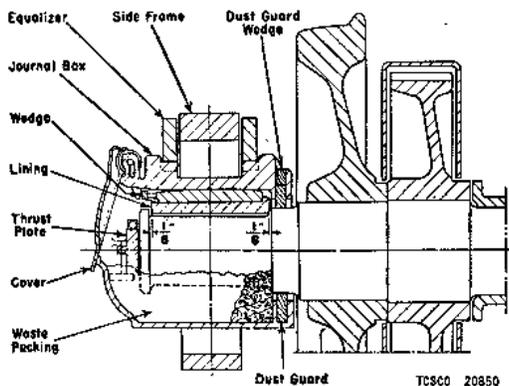

Figure 39. Plain bearing journal box, sectional view.
a. General. The bearings in these boxes are plain bearings as shown on figure 39. The cover on the front of each box is hinged at the top and is held down tightly by a